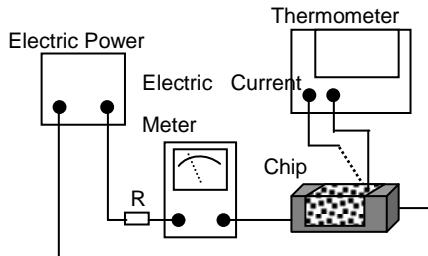

Fig. 5.3.3-1
- Definition of Rated Current (Ir): Ir is direct electric current as chip surface temperature rose just 20°C against chip initial surface temperature (T_a) (see **Fig. 5.3.3-2**)